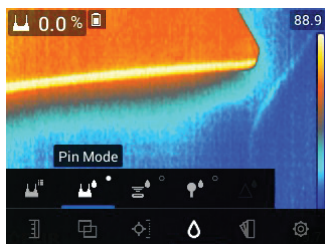

Figure 7.9 Pin mode menu selection
1. Select the Pin mode from the menu (*Moisture mode/Pin Mode*); see **Figure 7-9**.